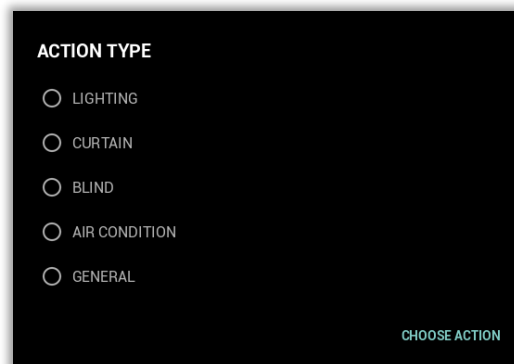

Fig. 37: Create Scenario – Add Scenario Process Step 3
- 4 Alarm detectors defined by this touch button are listed. Detectors from this list can be turned on or off. (Fig. 37)